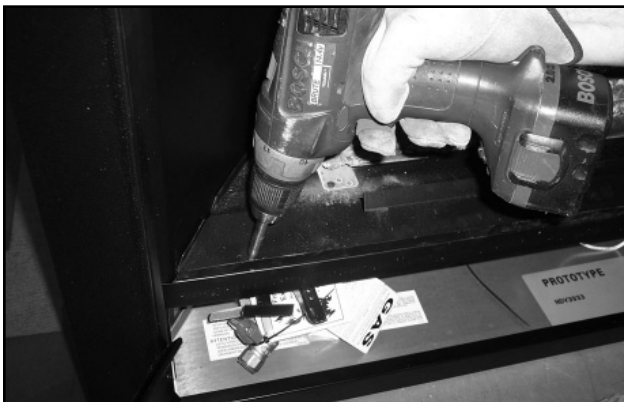

Figure 1.1 Loosen Hearth Pan Assembly
- Remove the two screws holding the hearth pan assembly. See Figure 1.1